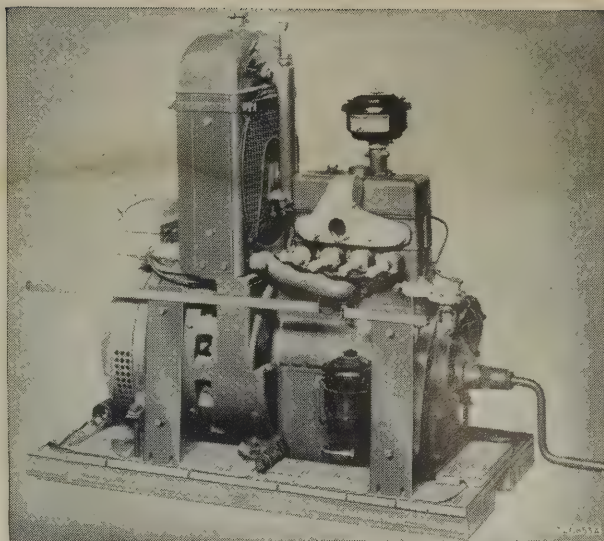

Figure 13. Power Unit PU-41/G.
a. POWER UNIT PU-41/G (fig. 13). This power unit (Kohler model 1M-21-A) is a manual-starting, 110-volt, single-phase, 60-cycle, 1,500-watt, a-c generator. The power unit is approximately 17 inches wide, 40 inches long, and 37 inches high. For detailed information on the power unit, refer to TM 11-935, 1½-KVA Kohler Power Unit Model 1M-21-A.